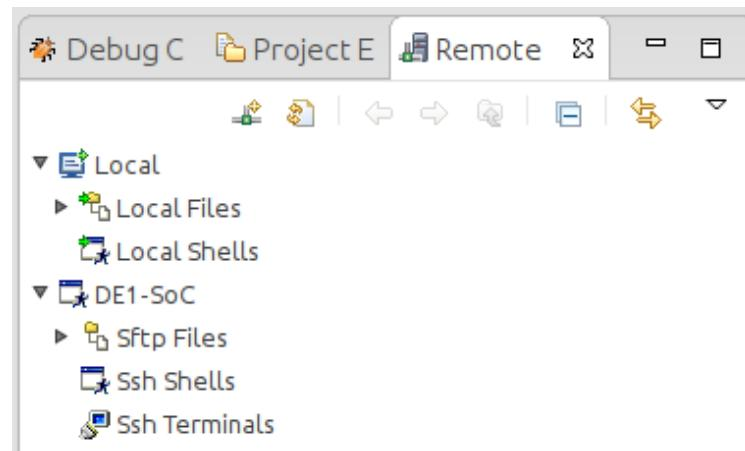

Figure 13-14. New SSH Connection In "Remote Systems" View
82. You should be able to see the remote system in ARM DS-5’s “Remote Systems” view, as shown in Figure 13-14.